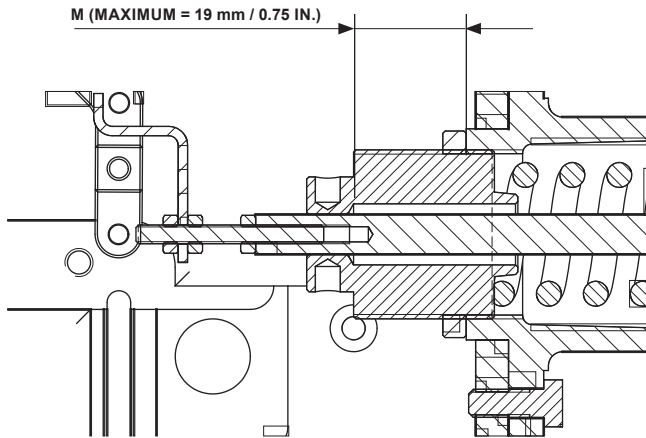

Figure 15. Maximum Length M of the Adjust Nut Screwing Out from Spring Casing
- The maximum length of M is 19 mm / 0.75 in. This is used to screw the adjust nut out from the spring casing. See Figure 15.